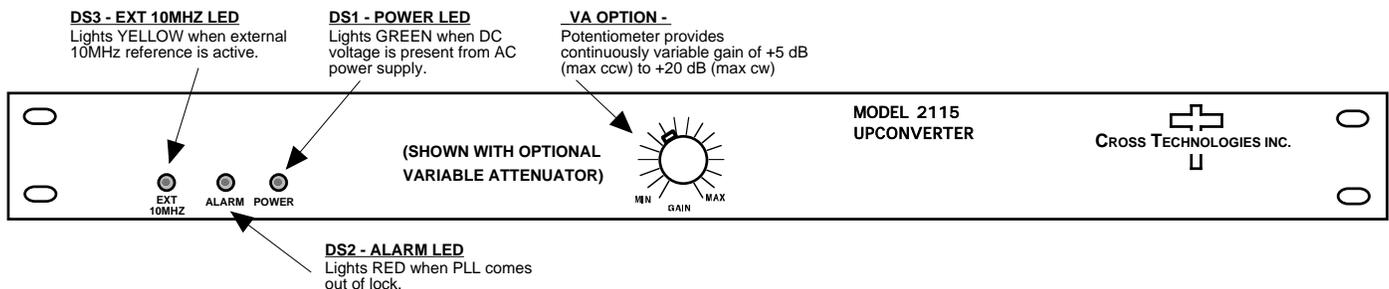

FIGURE 2.2 2115-125 Front Panel Controls and Indicators
4. Be sure DS1 (green, DC Power) is on and DS2 (red, Alarm) is off (Figure 2.2).
7. If EXT is selected or AUTO is selected and there is a 10MHz, +3 dBm signal at J2, check that DS3 (yellow, Ext 10MHZ) is on (Figure 2.2).